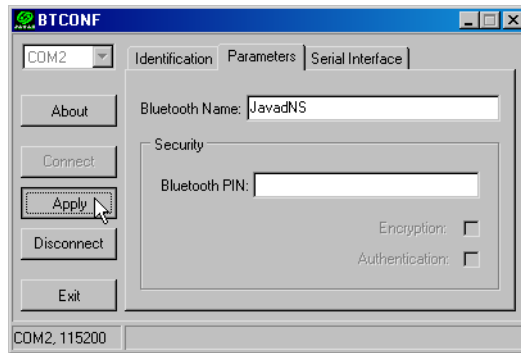

Figure 2-40. BTCONF Parameters Tab
- Click the **Parameters** tab (Figure 2-40). The **Parameters** tab sets identifying and security information for your Bluetooth® module. The security sec-
7. Enter up to 14 characters to set a unique name for the Bluetooth® module (Figure 2-40), and click **Apply**
8. To set security parameters (Figure 2-40 on page 80), enter and enable the following, then click **Apply**: